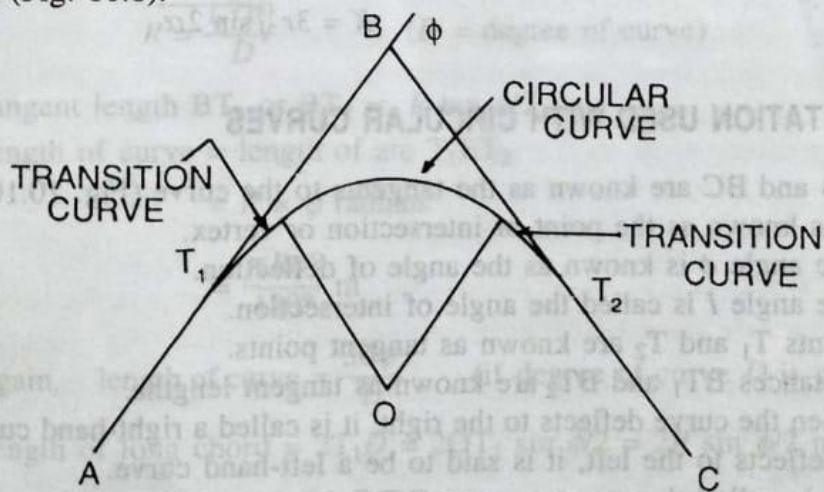

Fig. 10.8
4. **Transition curve** A curve of variable radius is known as a transition curve. It is also called a spiral curve or easement curve. In railways, such a curve is provided on both sides of a circular curve to minimise superelevation. Excessive superelevation may cause wear and tear of the rail section and discomfort to passengers (Fig. 10.8).